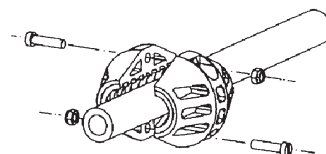

Fig. 5
- Place the hose stopper at the hose outlet end (fig. 5).
3. Place the hose stopper at the new hose outlet end (fig. 5).